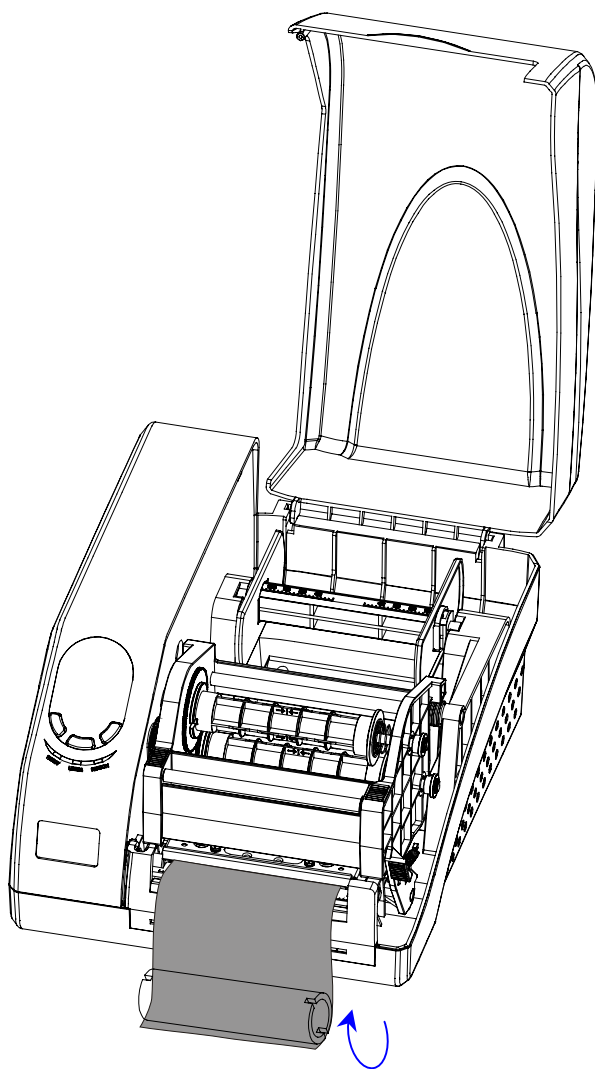

Figure 5-5
7. Wrap the end of the ribbon around the core (Figure5-5).